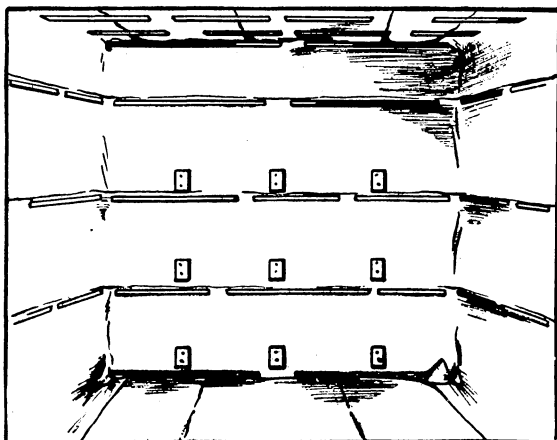

FIG. 3.—The false end wall studding blocked out from the end of the car.
3. Nail 9 blocks about 2 by 4 by 6 inches each to each end wall as illustrated in figure 3, so that when the studding is nailed to them it will leave a clear 6-inch space.
3. Nail ¹ 9 blocks, 2 by 4 by 6 inch each, to each of the end walls as illustrated in figure 3, so that when the studding is nailed to them it will leave a clear 6-inch space.